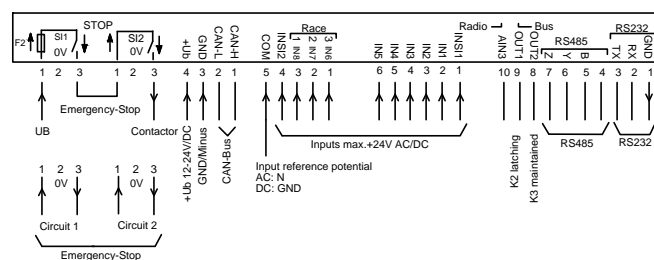

Figure 7: Connections at the RES receiver
- DE7.4.13 The status of the switch (K2) and the button (K3) at the sender is contained in the PDO 2000 (bit 1 and 2) as well as on the digital outputs, see Figure 7. The E-Stop is signaled by PDO 2000 bit 0 and PDO 2003 bit 7. PDO 2006 contains the radio quality (0 % to 100 %) whereas PDO 2007 summarizes several radio states, i.e. the pre-alarm radio communication interruption (bit 6, 200 ms in advance to shutdown).